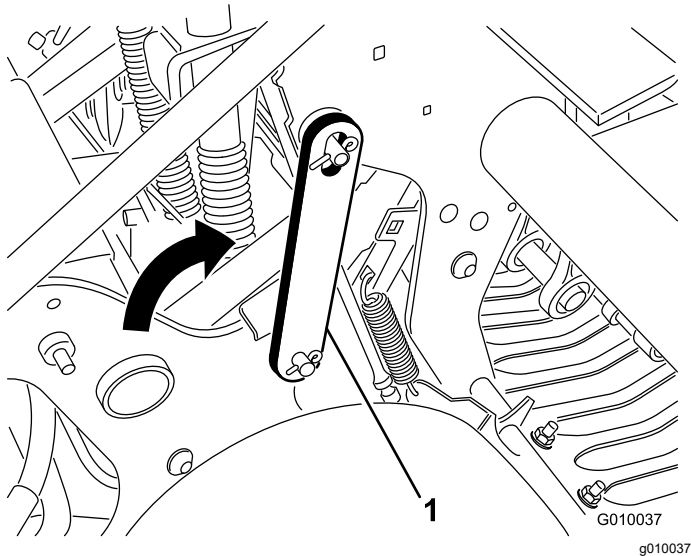

Figure 19
4. Pivot the service latch rearward and insert it onto the coring head pin (Figure 19). Secure the latch with the clip ring.